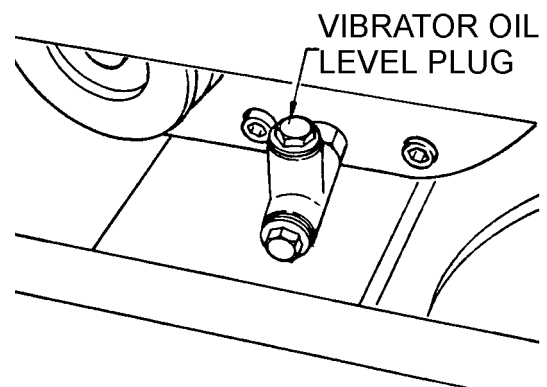

Figure 13. Vibrator Oil Level Check
1. Remove the red filler plug and the oil level inspection hole plug from the vibrator case (Figure 13).